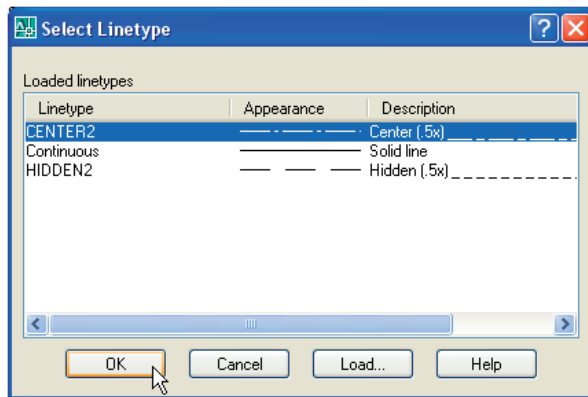

Fig. 4.20 The **Select Linetype** dialog
5. **Click** on the linetype **Continuous** against the layer name **Centre**. The **Select Linetype** dialog appears (Fig. 4.20). **Click** its **Load . . .** button and from the **Load or Reload Linetypes** dialog **double-click** **CENTER2**. The dialog disappears and the name appears in the **Select Linetype** dialog. **Click** the **OK** button and the linetype **CENTER2** appears against the layer **Centre**.